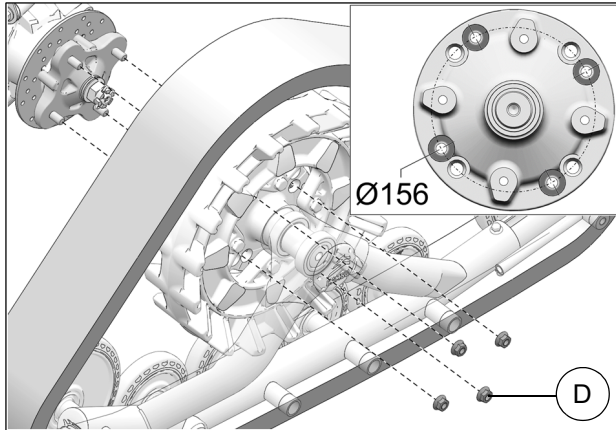

Fig. 9
9. Secure undercarriage to rear hub using the provided M10 lug nuts (D). Use bolt circle $\text{\O}156$ mm. See Fig. 9